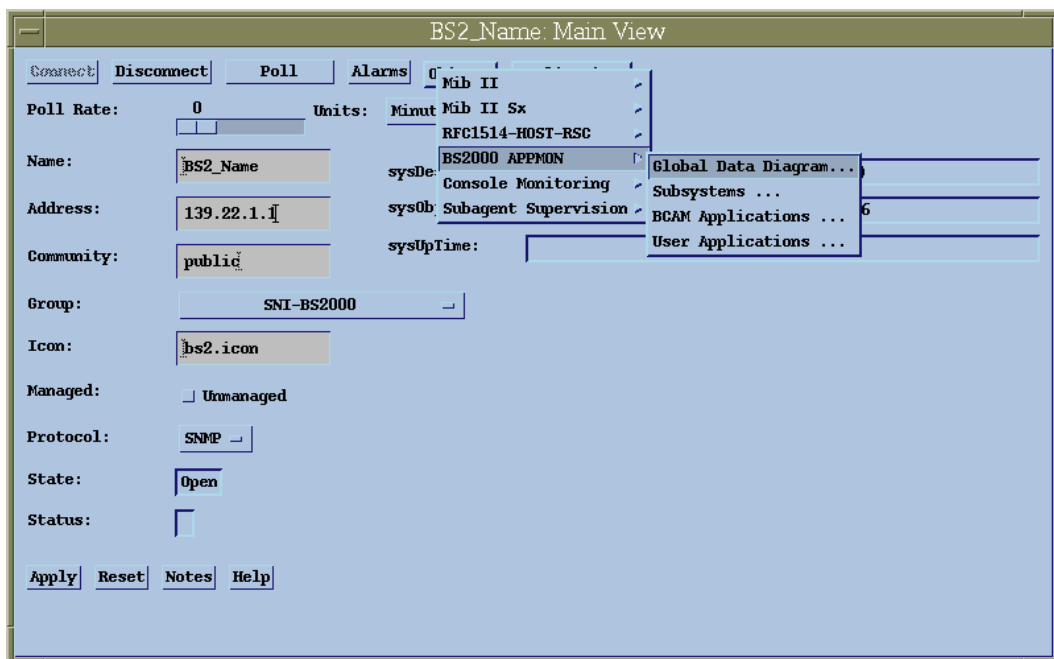

Figure 46: BS2000/OSD System overview in TransView SNMP
The window working area includes the following displays (see figure 46 on the following page):
- The menu entries *MIB II* and *MIB II Sx* output the MIB-II values that are supplied by the MIB-II subagents (see figure 46).